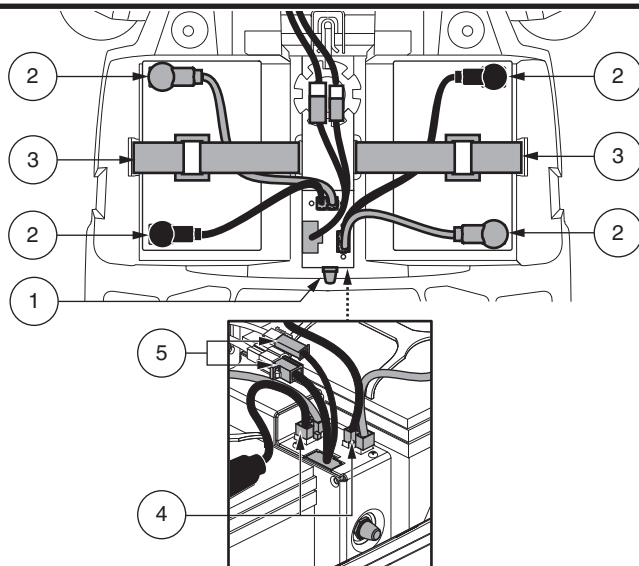

Figure 10. Battery Removal/Installation Terminals and Connections
2. Disconnect the battery tie-down strap. See figure 10.
3. Disconnect the battery harnesses by depressing the tabs on the battery harness connectors and pulling them straight up. See figure 10.
6. Place a new battery in each battery well. Face the battery terminals of each battery opposite each other and toward the outer sides of the scooter. See figure 10.